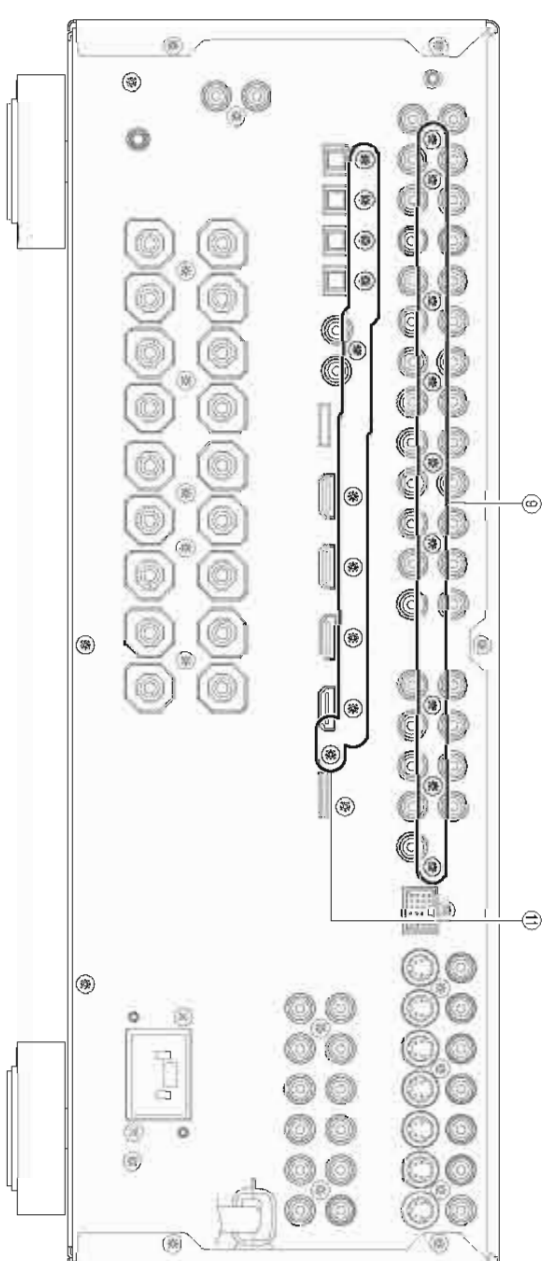

Fig. 3
- Remove 10 screws (RX-V863: U, C, R, T, K, A, G, E, F, L models / HTR-6180: U, F models) / 9 screws (HTR-6180: C model / DSP-AX863SE: B model) (⑩). (Fig. 3)
- ⑩のネジ9本を外します。(Fig. 3)
- Remove 12 screws (RX-V863: U, C models / HTR-6180: U model) / 10 screws (RX-V863: R, T, K, A, G, E, F, L models / HTR-6180: C, F models / DSP-AX863SE: B model) (⑫). (Fig. 3)
- ⑫のネジ10本を外します。(Fig. 3)